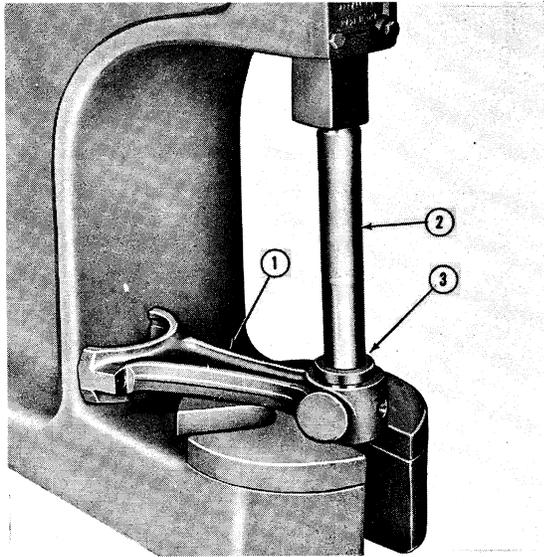

Figure 35
5. Check the connecting rod bushing to piston pin clearance. If the clearance exceeds 0.0005–0.0007 in. (0.013–0.018 mm), remove and install a new bushing with tool No. 818 and adapter, Figure 35.